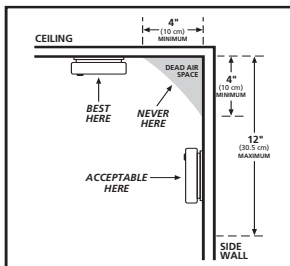

FIGURE 1
- When mounting an alarm on the ceiling, locate it at a minimum of 4" (10 cm) from the side wall (see figure 1).
- When mounting the alarm on the wall, use an inside wall with the top edge of the alarm at a minimum of 4" (10 cm) and a maximum of 12" (30.5 cm) below the ceiling (see figure 1).
Modern mobile homes have been designed and built to be energy efficient. Install smoke alarms as recommended above (see figures 1 and 2).
In older mobile homes that are not well insulated compared to present standards, extreme heat or cold can be transferred from the outside to the inside through poorly insulated walls and roof. This may create a thermal barrier which can prevent the smoke from reaching an alarm mounted on the ceiling. In such units, install the smoke alarm on an inside wall with the top edge of the alarm at a minimum of 4" (10 cm) and a maximum of 12" (30.5 cm) below the ceiling (see figure 1).